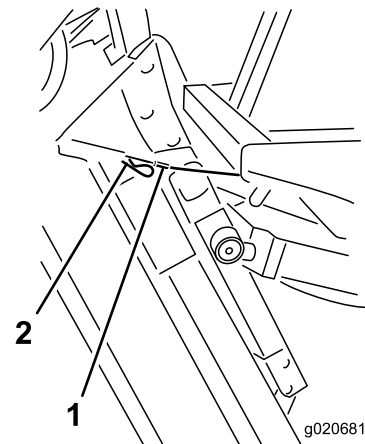

Figure 81
6. Hold the mower deck upright, fit the cable end over the pin on the mower deck lift arm, and secure it with the hairpin cotter (Figure 81).